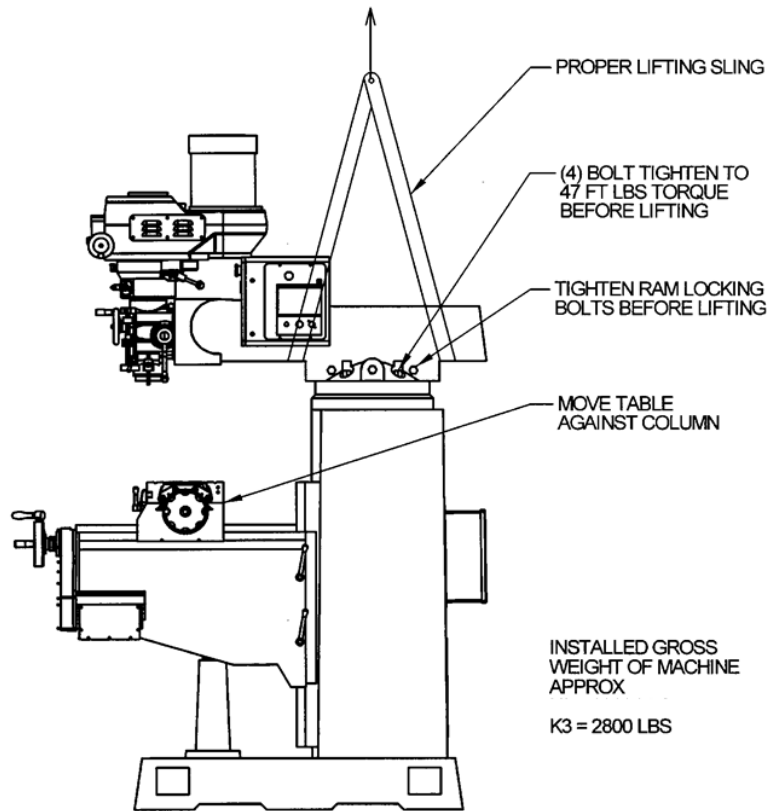

Figure 5 - Lifting the Machine
See Figure 5 to Prepare the Mill before Lifting:
1. Using a steel cable with protective sleeving (min 3/4" diameter) or a 3-ton sling, position sling loops on machine as shown in Figure 5.